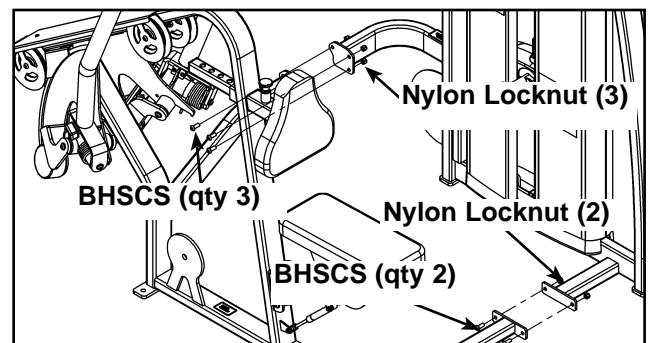

Figure 4
J. With an assistant, carefully remove the five BHSCS securing the two halves of the frame. See Figure 4.
L. With an assistant, carefully attach each half together using the five BHSCS removed in step 4J. See Figure 4.